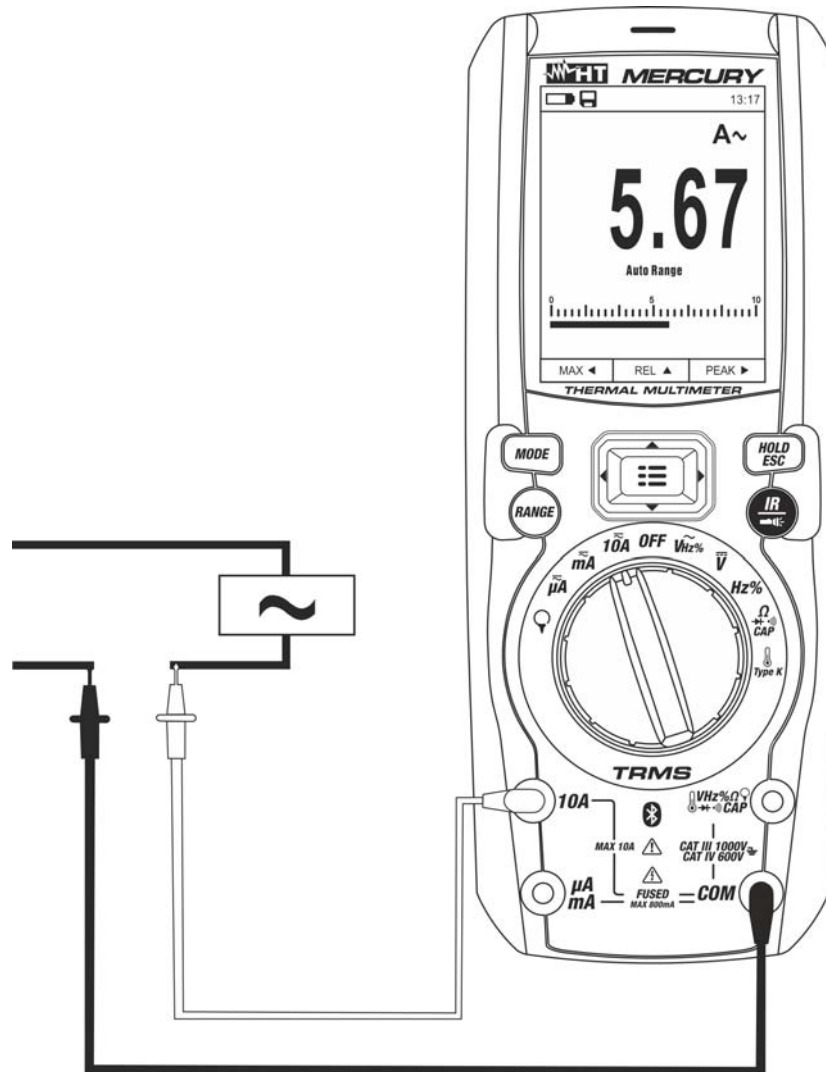

Fig. 29: Use of the instrument for AC current measurement
5. Connect the red lead and the black lead in series to the circuit whose current you want to measure (see Fig. 29).